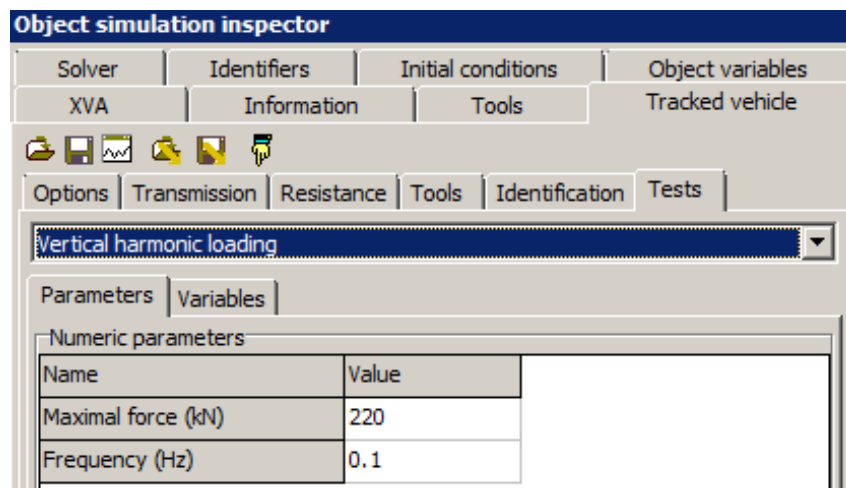

Figure 2.14. Test parameters
1. Select the corresponding type of the test and set parameters of the harmonic vertical force, Figure 2.14.